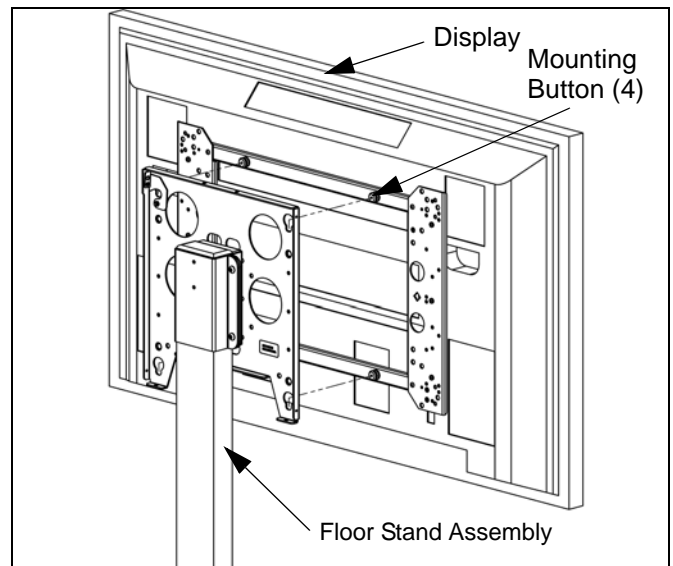

Figure 15: Remove display
5. Move display away from Faceplate until all four Mounting Buttons are free from teardrop Mounting holes in Mount Faceplate. (see Figure 14:, Figure 15:)